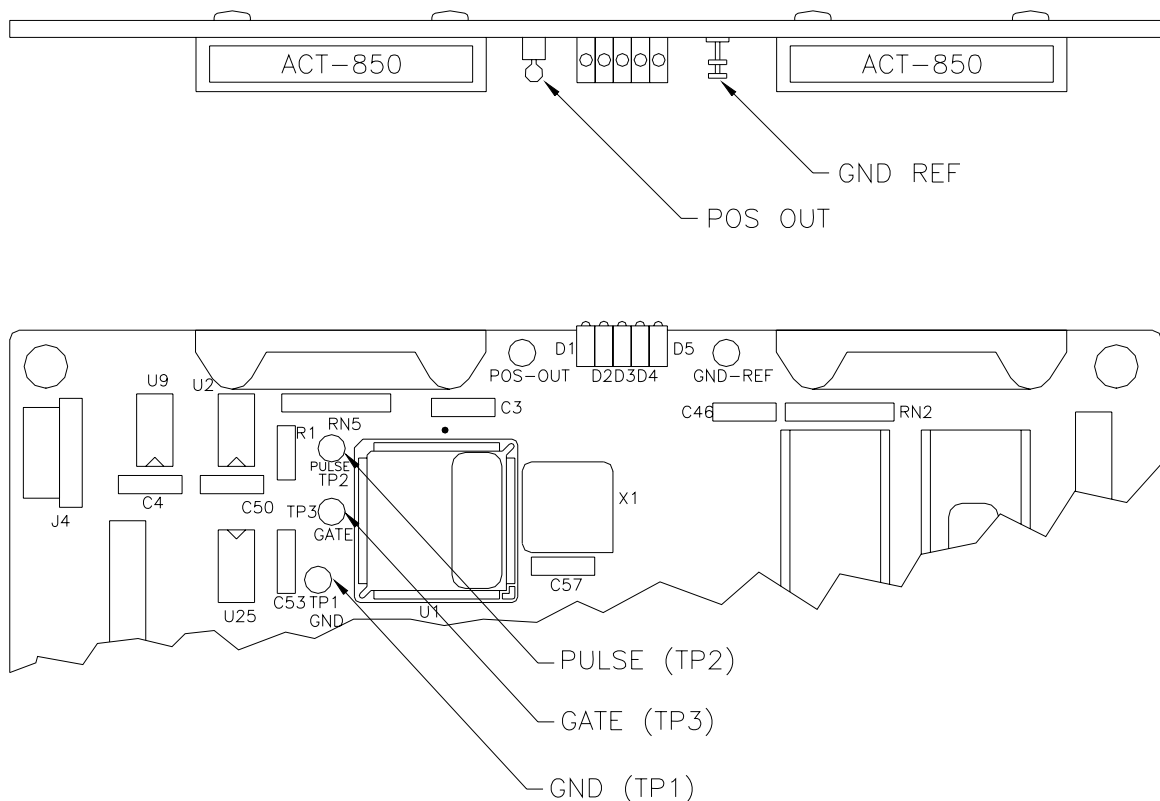

Figure 5-1 Location of Test Points
6. Connect the red and black meter leads to POS-OUT and GND-REF respectively (See Figure 5.1).